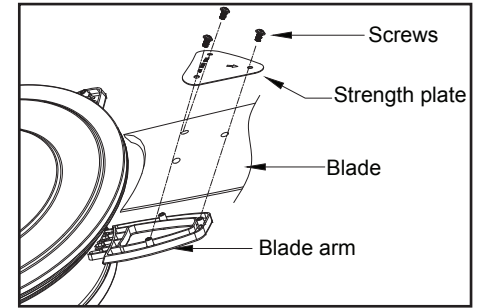

Figure 12
1. Align the holes in the strength plate and holes in the blade with holes in the blade arm and secure with the screws provided (Figure 12).